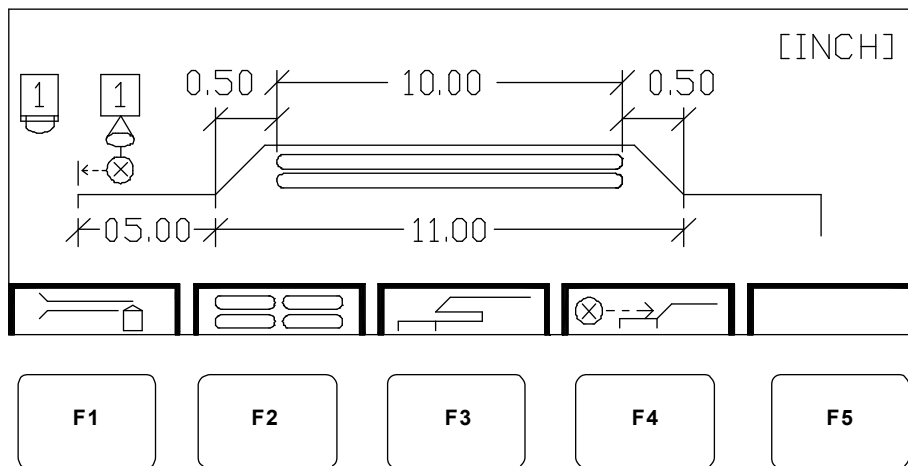

Figure 10-14. Channel-1 Screen
2. To return to the channel-1 screen, press F5 () (F1 position in mode 2). The channel-1 screen (Figure 10-14) displays.